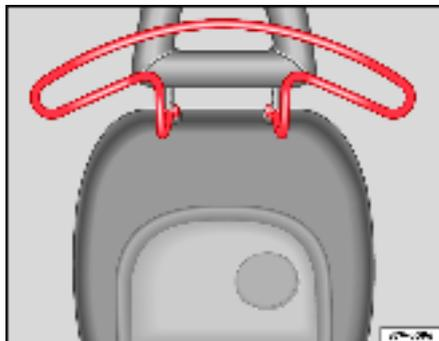

Fig. 107 Clothes hangers on the front seat
- Pull the clothes hanger 33) off the rods of the head restraint ⇒ fig. 107.